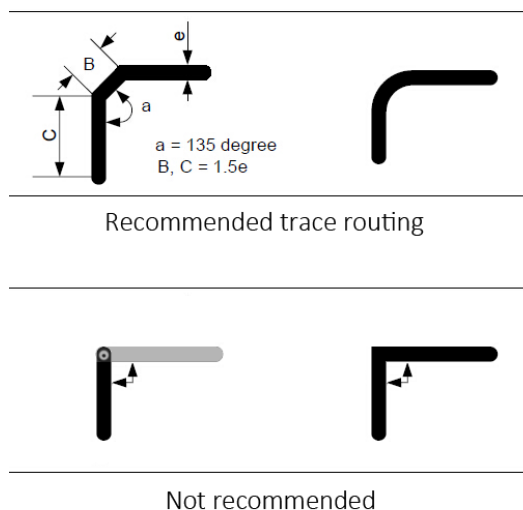

Figure 4. Trace Bends
- **Trace bends:** In case of right angled bends (especially in clock traces), the bend must be smoothed out over two 45° bends (or smoother). This is done in order to minimize signal reflection that occurs with 90° trace bends. Please refer to Figure 4 below for recommended trace routing.